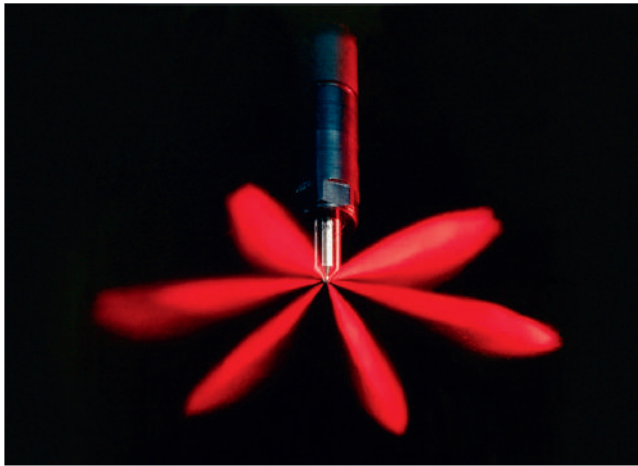

Figure 2.291 Direct injection (DI) injector
The fuel injectors are fitted into the cylinder head with the nozzle tip projecting into the precombustion (indirect injection) or combustion chamber (direct injection). The injectors for indirect combustion are of a pintle or 'pintaux' design (similar to petrol injectors in many ways) and produce a conical spray pattern on injection. The injectors for direct injection (DI) are of a pencil-type multihole design that produces a broad distribution of fuel on injection (Fig. 2.291).